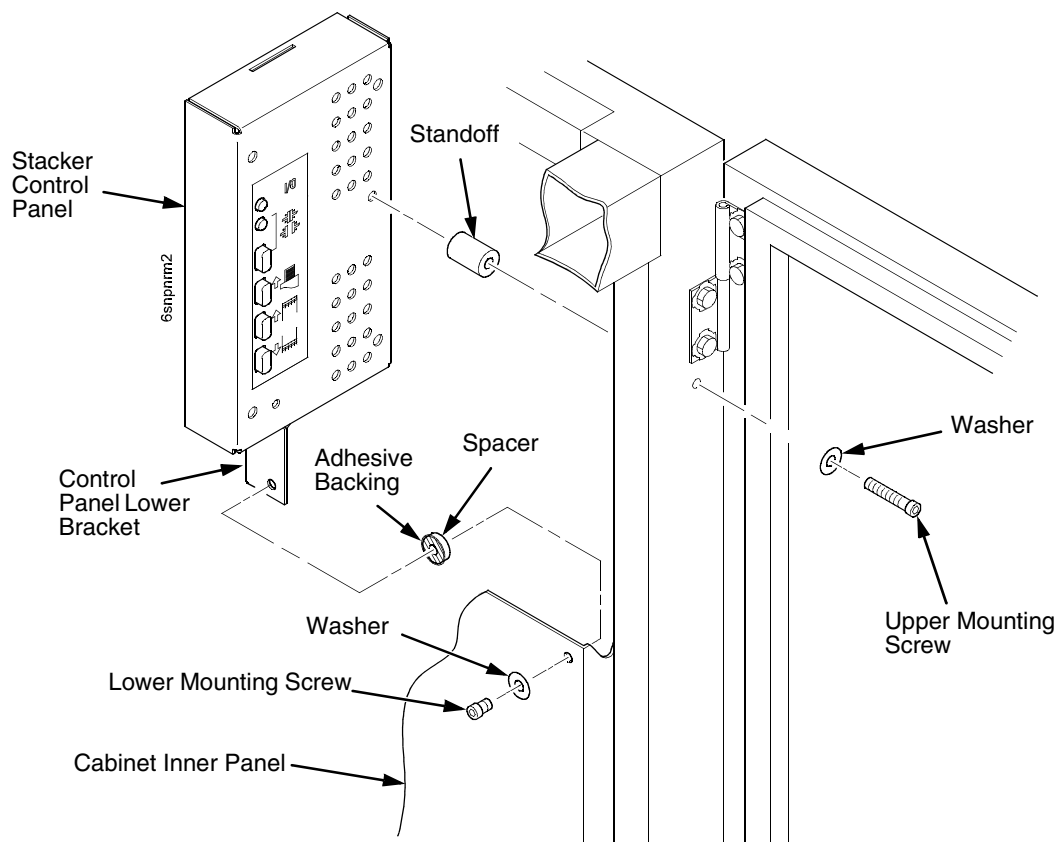

Figure 89. Installing the Stacker Control Panel
24. Apply the double-sided tape to one end of the control panel standoff. Remove the paper backing and hold the standoff inside the cabinet while you insert the upper mounting screw and washer through the hole in the frame. Use the screw as a guide to align the standoff with the hole, then press the standoff against the inside wall and push the upper screw in as far as it will go. Now maneuver the control panel into position and install the upper mounting screw finger tight in the control panel. (Figure 89.)
- 1) Peel the backing off the spacer adhesive. (Figure 89.)
- 2) Align the spacer with the holes in the lower bracket and inner panel. (Figure 89.)
- 3) Press the spacer adhesive against the inner panel. (Figure 89.)
26. Install the lower mounting screw and washer. Tighten the upper mounting screw. (Figure 89.)
178911-901; EMEA (RoHS): :250676-901) (See Figure 89, page 412)